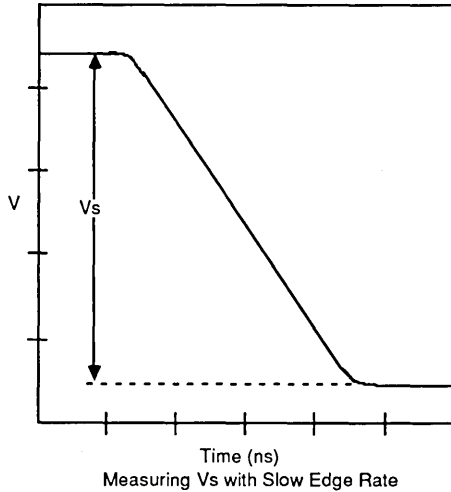

Figure 6A.
c. Set up the pulse generator to obtain a 5V amplitude square wave of 1 MHz frequency. Adjust the rise and fall times to get 30 ns (10% to 90%). These slow edges ensure that the PCB trace behaves like a lumped load and not like a transmission line. Overshoots and undershoots on the waveform are avoided. Record the amplitude (V_s) observed on the oscilloscope under these conditions as shown in Figure 6A.